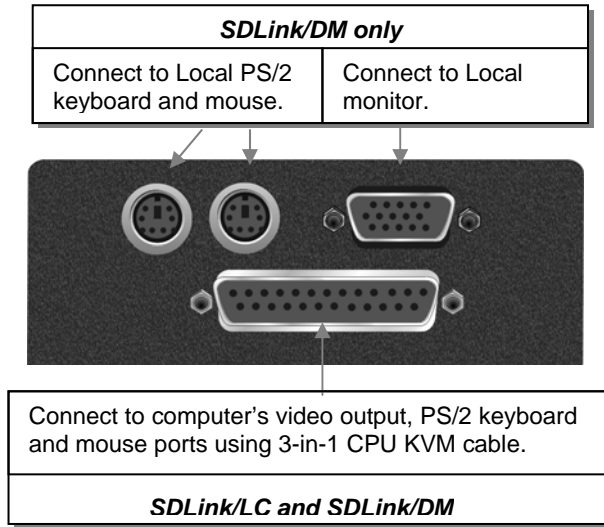

Figure 5 SDLink/LC and SDLink/DM Local Units - rear view
2. Using the supplied CPU KVM cable(s), connect the keyboard, monitor(s) and mouse connectors on the computer (or KVM switch) to the corresponding connectors on the Local Unit as shown in Figure 5.